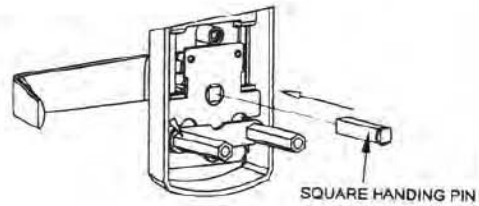

Fig. 2
2. Align the handle for the desired door handling then insert the square handling pin into the hub. (See Fig. 2.)